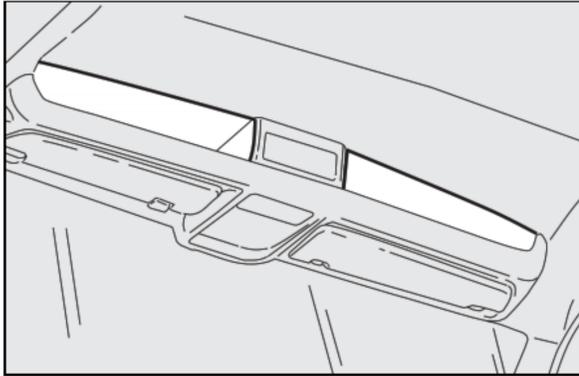

fig. 85b
**ODDMENT COMPARTMENT IN THE CAB (CAPUCINE) fig. 85b (where provided)**